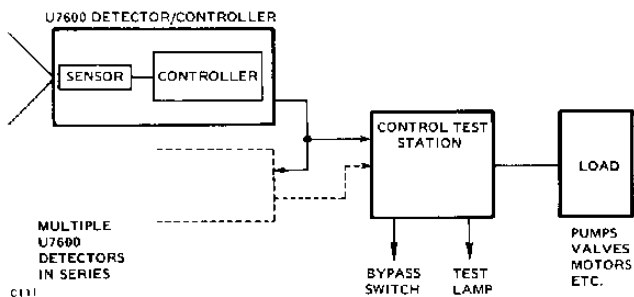
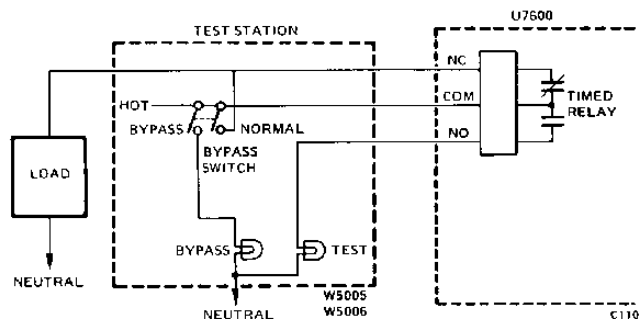

Figure 11—Block Diagram - Normally Energized Load.
Figure 12—Typical Wiring Diagram - Normally Energized Load.
The Normally Closed (NC) contacts of the relay in the detector are used to keep a load energized until the detector "sees" UV. The load could be an electrically operated valve, pump, etc. When the detector "sees" a fire, the relay is energized, opening the NC contacts so the load is de-energized. This application allows the user to tie many detectors in series, and if one detector "sees" a fire the load is de-energized. The bypass switch at the test station allows testing the detectors without de-energizing the load. See Figure 11 for block diagram and Figure 12 for typical wiring diagram.